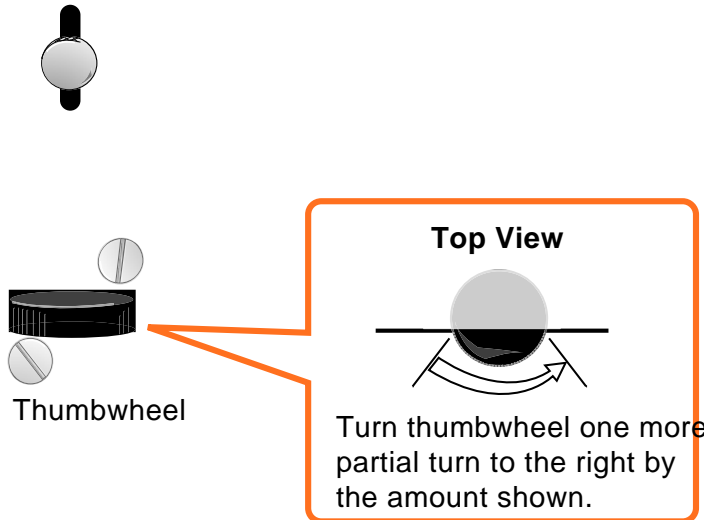

Figure 5-7. Thumbwheel Rotation
4. Turn the thumbwheel to the right just until the clicking sound stops. Then, turn it one more partial turn (see Figure 5-7).